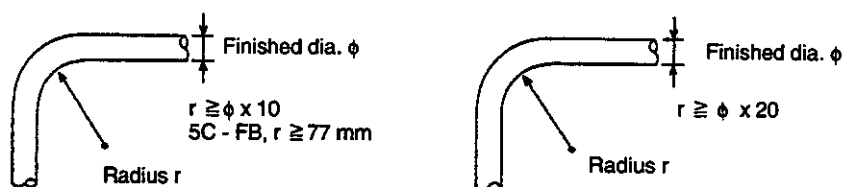

Figure 6.10 Cable Bending
- a) When bending a coaxial cable, always follow the radius of curvature shown in *Figure 6.10* and *table 6.8* below.